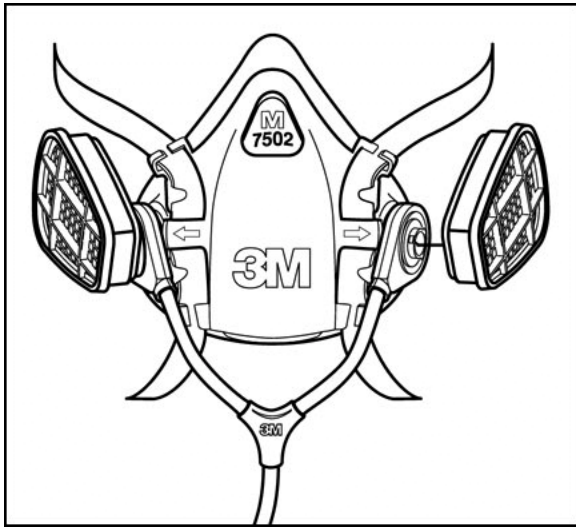

Fig. 9
2. Make a selection of cartridges and/or filters that meets your respiratory protection requirements, and attach to the outer bayonets of 3M SA-1600 or SA-2600 breathing tubes. (Fig. 9)